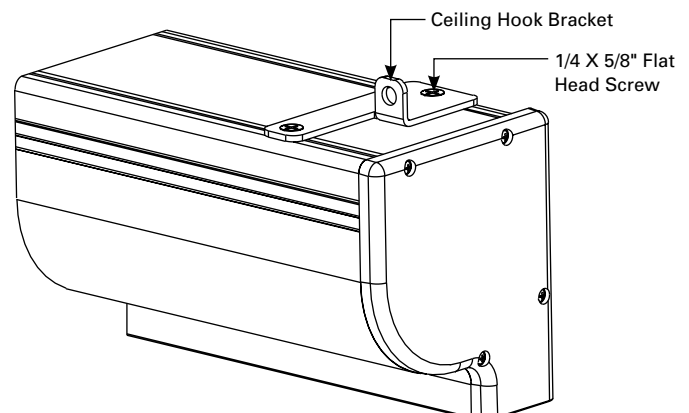

Figure 4
3. The top of the screen case has two channels with threaded nuts that slide the length of the case. Attach the two ceiling hook mount brackets using the 1/4" x 5/8" screws and threaded nuts, two per bracket. The brackets can be attached anywhere within 12" of the ends of the case (Figure 4).